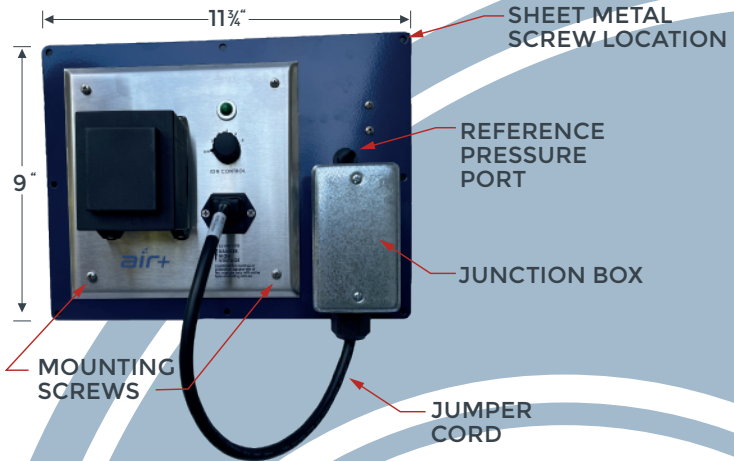

FIGURE 4
Step 3. Close the junction box cover and connect the jumper cord to the ionizer power input fitting. (See Figure 4).